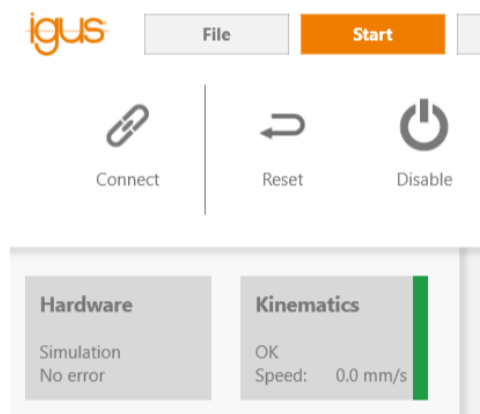

Figure 11: Buttons for connecting to the hardware, resetting errors and activating the motors, referencing and "Status" display.
The real robot can be controlled in the same way as the simulated one, only the hardware must first be connected and activated by clicking the "Connect", "Reset" and "Activate" icons in the "Physical Robot" button group in the "Motion" tab (see Fig. 11). Depending on the type of robot the axes must then be referenced.
2. Press the buttons "Connect", "Reset" and "Activate" (see fig. 11).
3. Click the "Reference" button (Fig. 11) in the "Start" tab (or "Referencing" in the "File" tab) to open the referencing window.